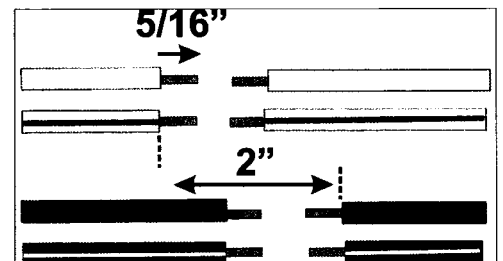

Figure 2
5. Hold the yellow and the yellow w/black stripe together and cut both wires equally. (Figure 2)
6. Measure two (2) inches back from the cut on the yellow wires and hold the dark green and the dark green w/white stripe together and cut both wires equally. (Figure 2)
7. Take the yellow wire and the yellow w/black stripe wires going rearward toward the towing pigtail and strip back 5/16" of insulation. (Figure 2)
9. Repeat steps 7 & 8 for the dark green and dark green w/white wires going rearward. (Figure 2)